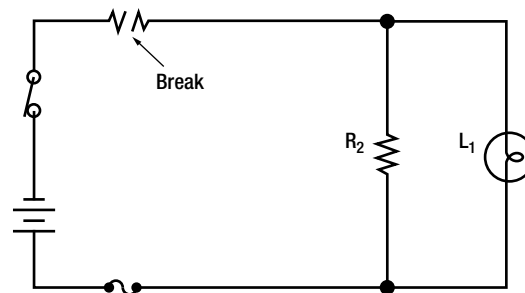

Figure 3-134. An open in the series portion of a series-parallel circuit.
1. In the circuit shown in **Figure 3-134**, an open has occurred in the series portion of the circuit. When the open occurs anywhere in the series portion of a series-parallel circuit, current flow in the entire circuit will stop. In this case, the circuit will not function, and the lamp, L_1 , will not be lit.